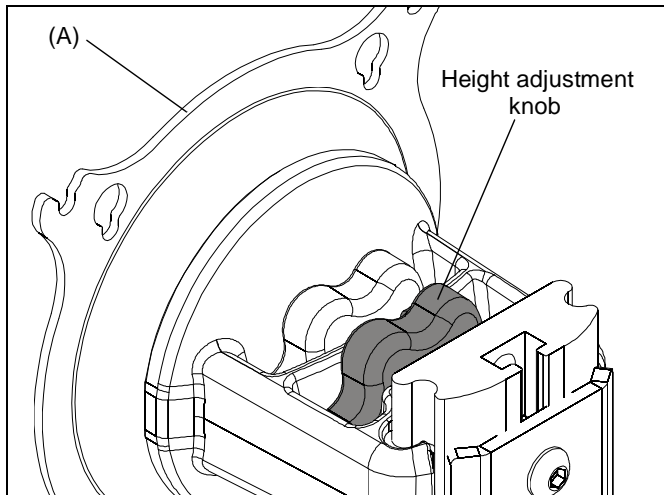

Figure 9
- Adjust Centris assembly (A) to desired height and tighten the height adjustment knob closest to secure Centris assembly to wall mount. (See Figure 9)